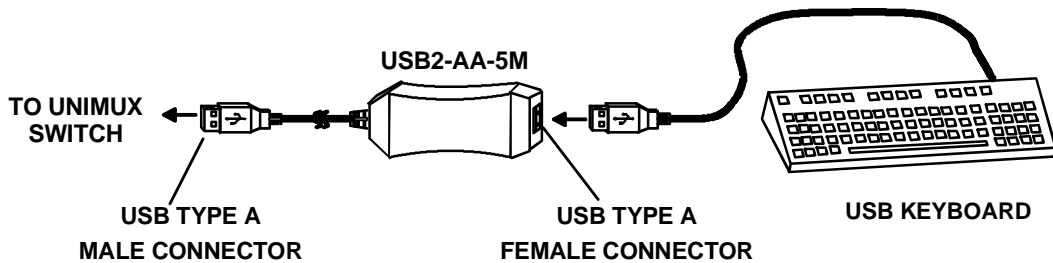

Figure 5- Use USB2-AA-5M to extend a device, or a computer
Note: If device cables are not long enough to reach the UNIMUX switch, they can be extended either 5 or 10 meters using either 1 or 2 NTI USB2-AA-5M Active USB 5 Meter Extensions (see Figure 5)- purchased separately. Using USB-C5-LC you can extend device cables up to 150 feet. Contact your NTI salesperson for more details by calling (800) 742-8324 (800-RGB-TECH) or (330) 562-7070 or visit our website at <http://www.networktechinc.com>.